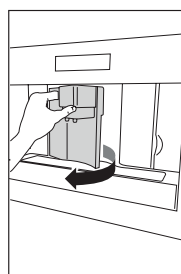
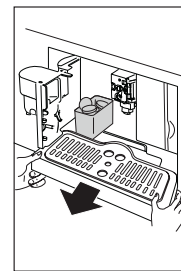
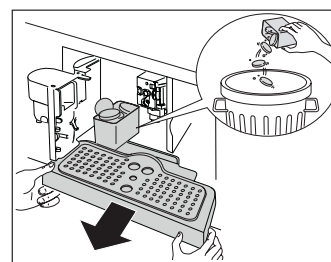

Fig. 23
Fig. 24
Fig. 39
- ▶ To clean, open the service door on the front of the appliance by pulling the spout (Fig. 23), extract the drip tray (Fig. 24) and clean (Fig. 39).